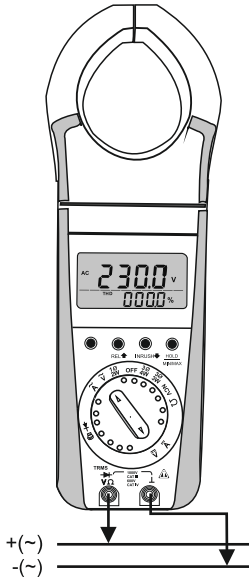

Fig 8.1 Voltage measurement on electrical systems up to 1000V
- ☛ Connect the test leads as shown in fig 8.1 The “⊥” socket should be connected to the lowest potential ground available.